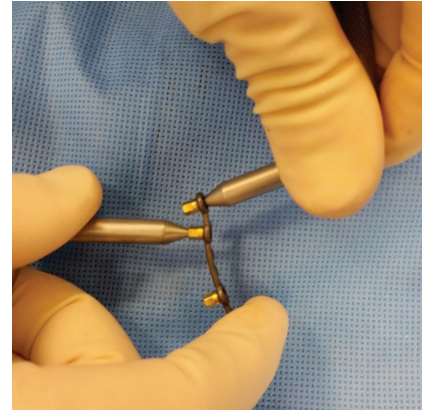

Fig.3A
**3.1** Select a 4-hole BIPLANAR™ Plate. Be sure to inspect the plate to ensure that all four pre-installed drill guides are fully installed into the plate. If bending of the plate is required to match the bony anatomy, insert bending instruments into the pre-assembled drill guides on the plate and make adjustments to the plate prior to fixating the plate to the bone (**Fig.3A**). A small amount of twist can be achieved to assure that the fixed angle screws will be executed in desirable direction into the bone segments.